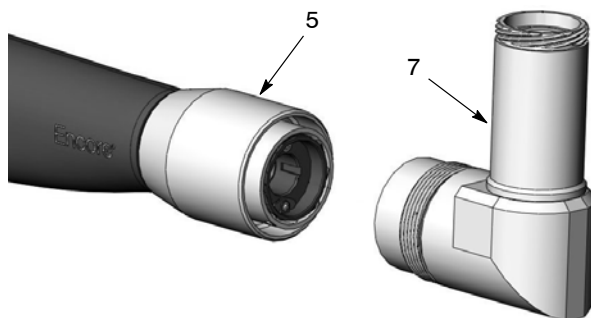

Figure 6 Installing the Extension on the Spray Gun
5. See Figure 6. Install the extension (7) onto the gun, orient it as desired, then thread the body nut (5) onto the extension. Hand-tighten the nut.
3. See Figure 6. Unscrew the body nut and remove the extension from the spray gun.
1. See Figure 6. Install the extension body onto the gun, orient it as desired, and thread the body nut onto the extension. Hand-tighten the nut.